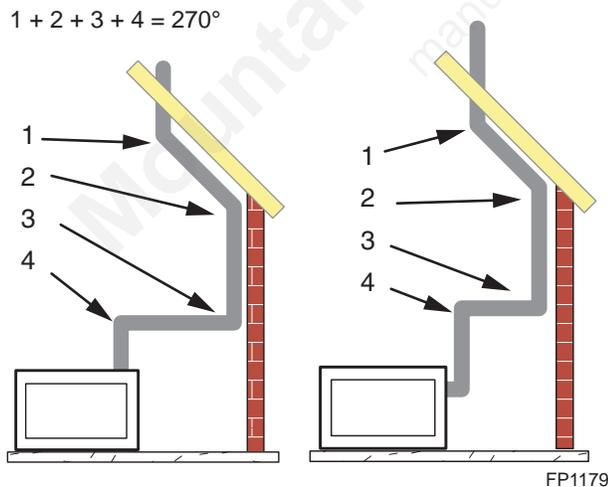

Figure 46 – Maximum Elbow Usage
- Two sets of 45° elbow offsets may be used within the vertical sections. From 0 to a maximum of 8' (2.5 m) of vent pipe can be used between elbows. *Figure 46*
- The maximum angular variation allowed in the system is 270°. *Figure 46*